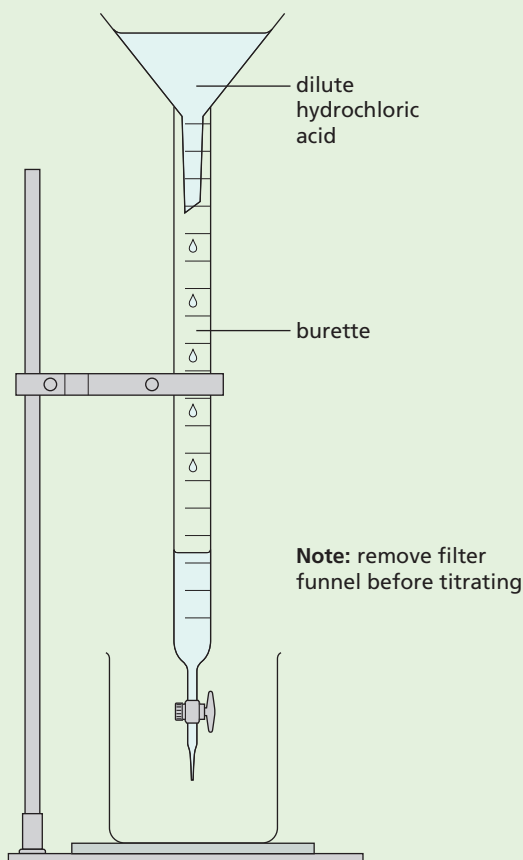

Figure 8.24 The burette is filled up to the zero mark with a 0.10 mol dm^{-3} solution of hydrochloric acid.
- 2 A 0.10 mol dm^{-3} solution of hydrochloric acid is placed in the burette using a filter funnel until it is filled up exactly to the zero mark (Figure 8.24).